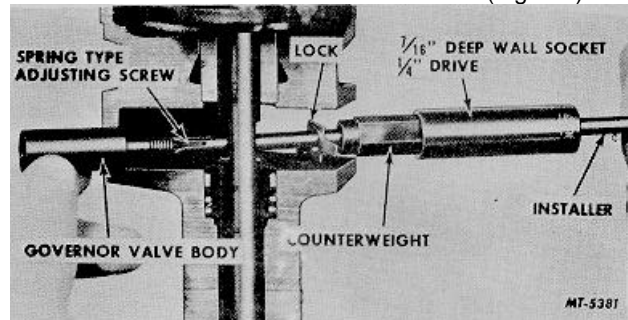

Fig. 30 Governor Valve Separated from Distributor Shaft
Hold remover tool stationary and loosen counterweight (hex nut) until adjusting screw becomes disengaged (Fig. 30).
- f. Remove governor valve body and adjusting screw from distributor shaft and remover tool (Fig. 30).